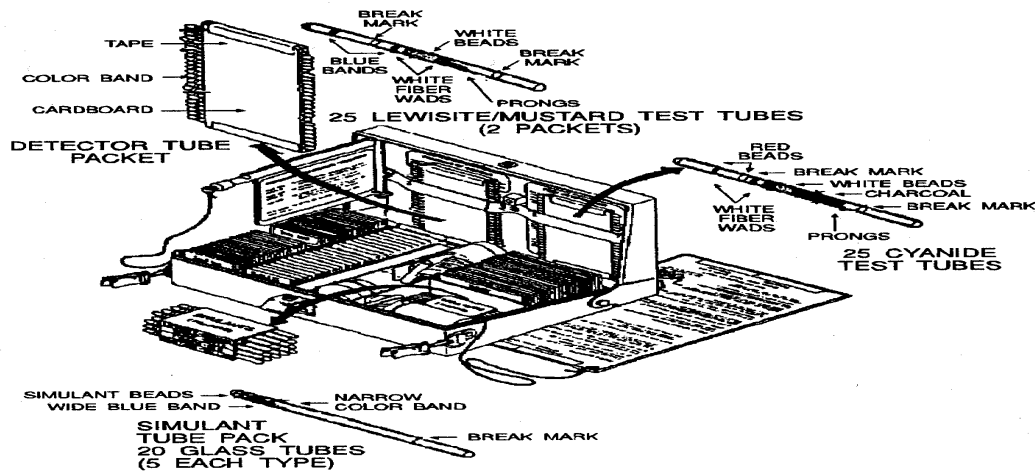

Figure 6-12 M272 Water Testing Kit.
d. The M272 (Figure 6-12) kit will detect and identify dangerous levels of common chemical warfare (CW) agents in water sources. Non-chemical corps personnel who are required to collect and check any water source such as wells, lakes, rivers, and city water systems can use it. The M272 is a lightweight kit that will detect and identify harmful amounts of CW agents when those are present in raw or treated water. See TM 3-6665-319-10 for further information.